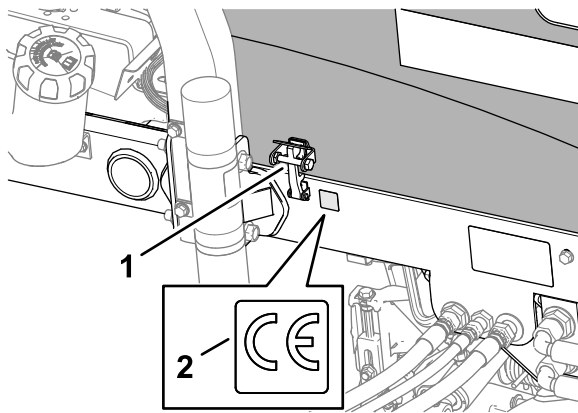

Figure 38
3. Wipe clean the left frame near the hood lock with alcohol, and allow the frame to dry (Figure 38).
4. Remove the backing and apply the CE decal to the frame as shown in Figure 38.